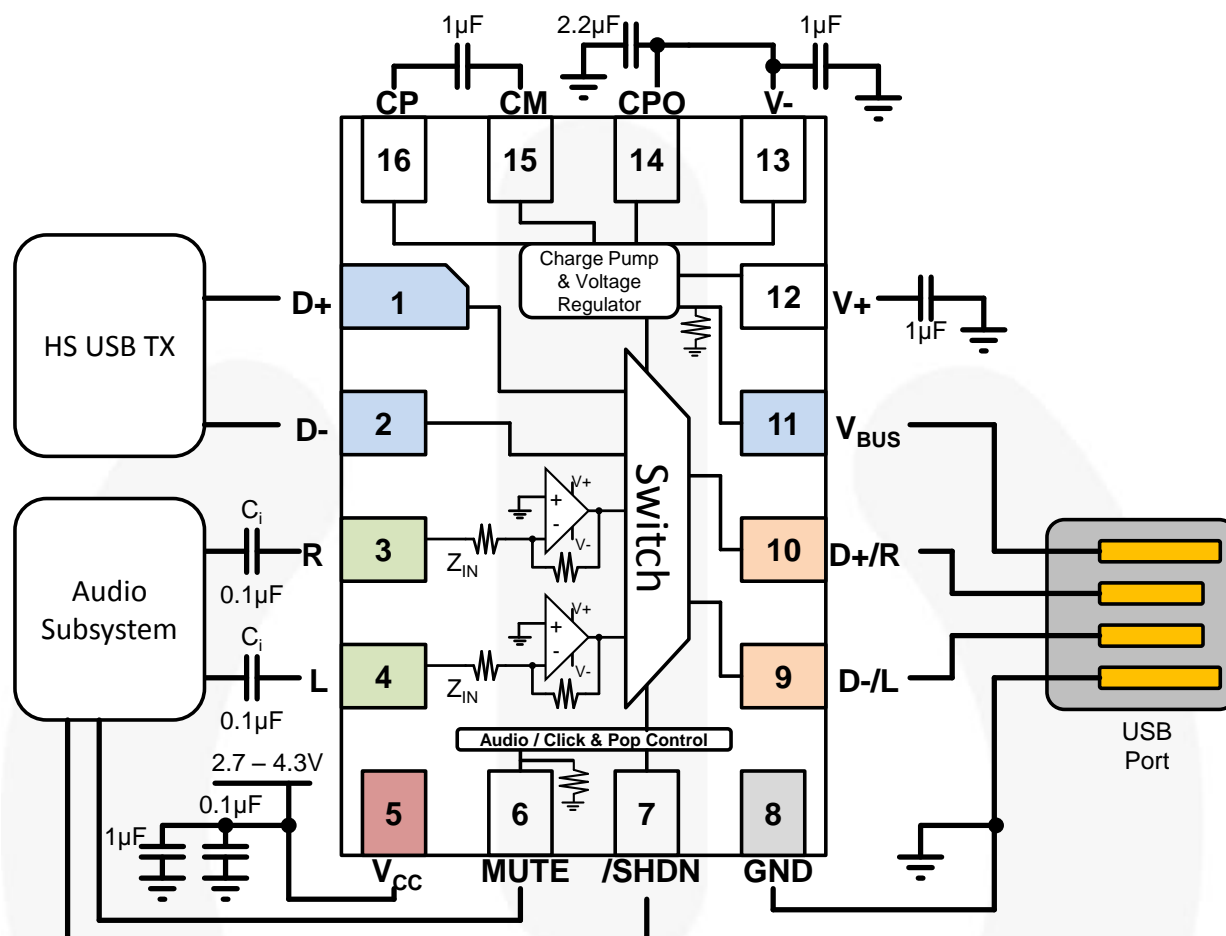

Figure 4. Micro-USB Application
- **PIN 15, 16** – The charge pump has been optimized for low-ESR ceramic capacitors for the flying capacitor between CP and CM, along with the output capacitors on V+, CPO, and V-. Optimized values for these capacitors are in Figure 4.